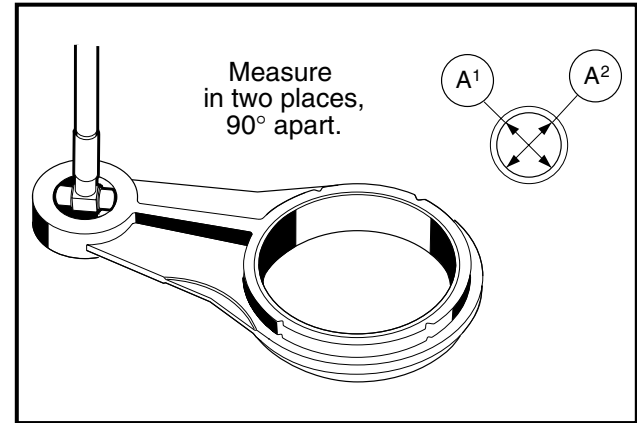
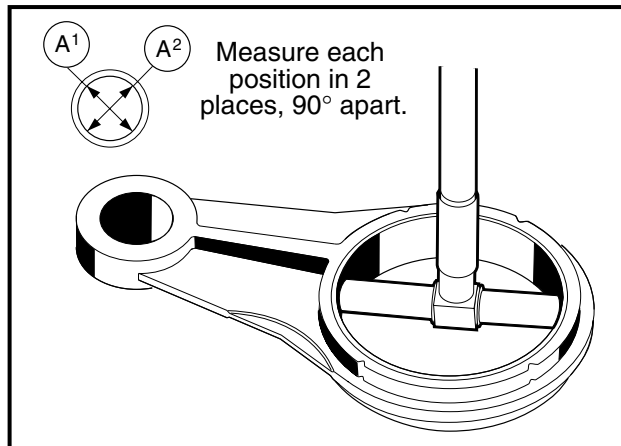

Figure 13-77 Measure Link Rod Small Bore I.D.
Figure 13-78 Measure Link Rod Large Bore I.D.
1. Clean and inspect the link rod (1) bearing surfaces. If the bearing surface of the small end is scored or damaged, replace the link rod. If the large end bearing is scored or damaged, the link rod must be replaced (**Figure 13-77, Page 13-38 and Figure 13-78, Page 13-38**).
- 1.2. If the inside diameter of the small end is greater than 0.4746 inch (12.057 mm), replace the link rod (**Figure 13-77, Page 13-38**).
- 1.3. If the inside diameter of the large end is greater than 1.9726 inches (50.106 mm), replace the link rod (**Figure 13-78, Page 13-38**). See following NOTE.